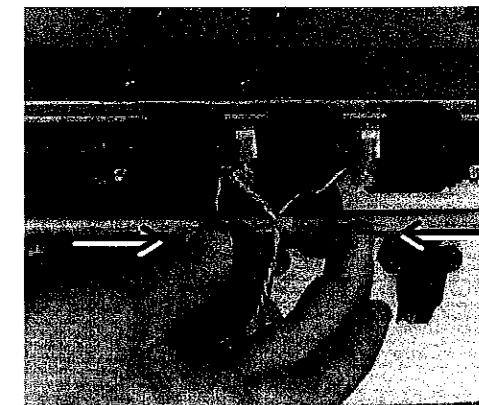

Figure 9: Releasing the Movable Drive Plate
2. Release the movable drive plate by pressing both pin fasteners in towards each other as shown in Figure 9. The drive plate is free to rotate up and down.